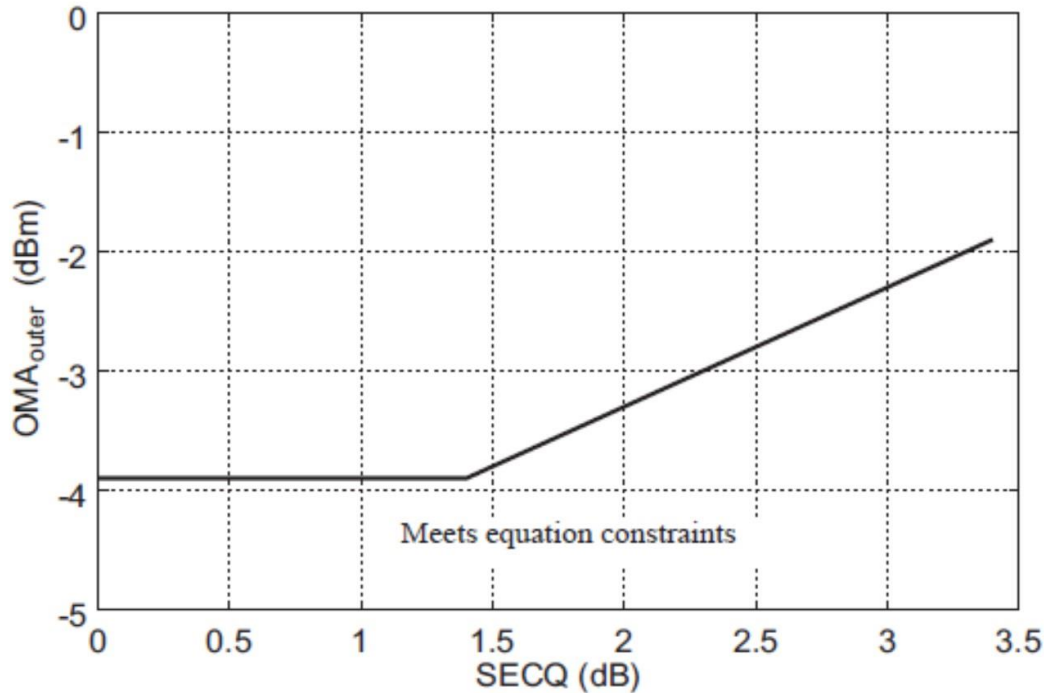

Figure 2. Illustration of Receiver Sensitivity Mask for 400G-DR4
6. Receiver sensitivity (OMA_{outer}), each lane (max) is informative and is defined for a transmitter with a value of SECQ up to 3.4 dB. It should meet Equation (1), which is illustrated in Figure 2.